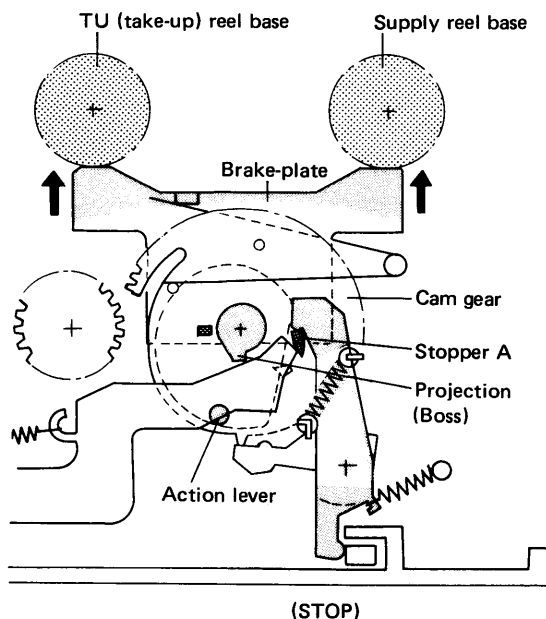

Fig. 15-4 PLAY → STOP operation
### 15.3 PLAY → STOP OPERATION (Fig. 15-4)
1. When the STOP button is pressed, the PLAY button lock is released, and the force of gear lever spring A returns gear lever A and B in the direction ⑤. This action separates cam gear stopper C from gear lever B.
2. As cam gear stopper C moves away from gear lever B, the compression force of the trigger spring rotates the cam gear in the direction ② until stopped by contact between cam gear stopper A and gear lever A. (See the right side of Fig. 15-4).
4. At the same time, the shape of the cam (machined on the upper surface of the cam gear) returns the action lever in the ⑥ direction, releasing the pressure contact the pinch roller and TU idler are placing on the reel base. The head base also returns to the STOP position, and the PLAY switch is thrown to the STOP side, completing entry into the STOP mode.